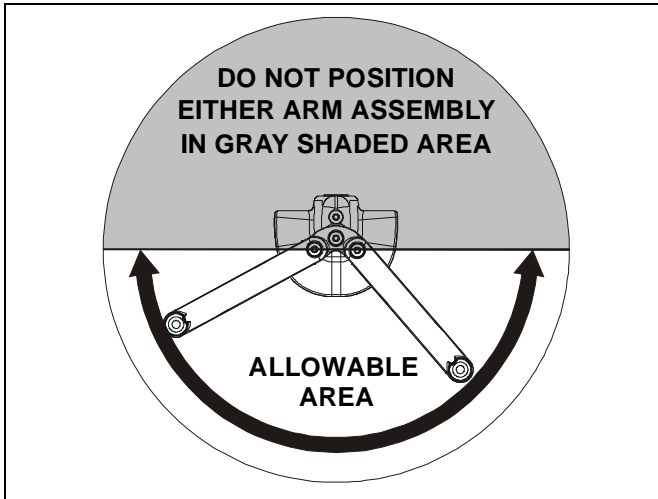

Figure 19: Allowable Arm Area
- Position arm assembly (10) within UNSHADED area as shown (See Figure 19). Using 3/16" hex key, tighten screw (30) as required to maintain position.